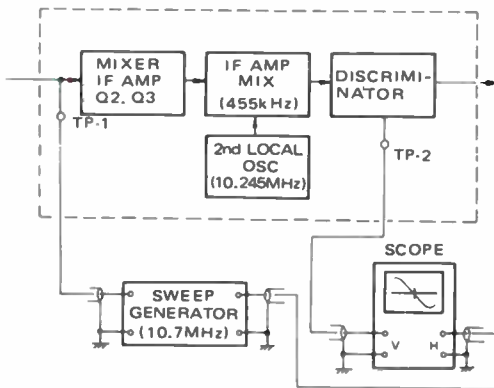

Figure 2. IF TEST SETUP
Step 1: Connect the instruments as shown in Figure 2.